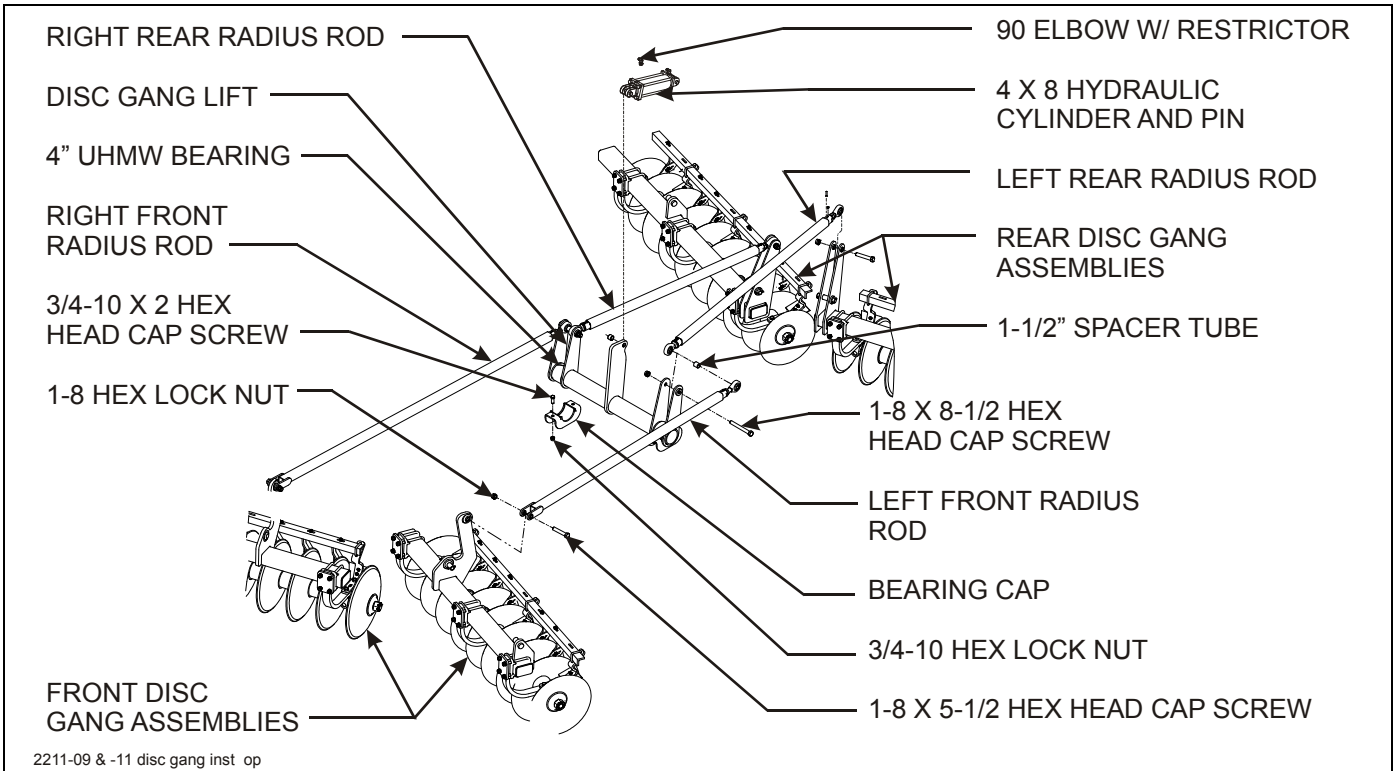
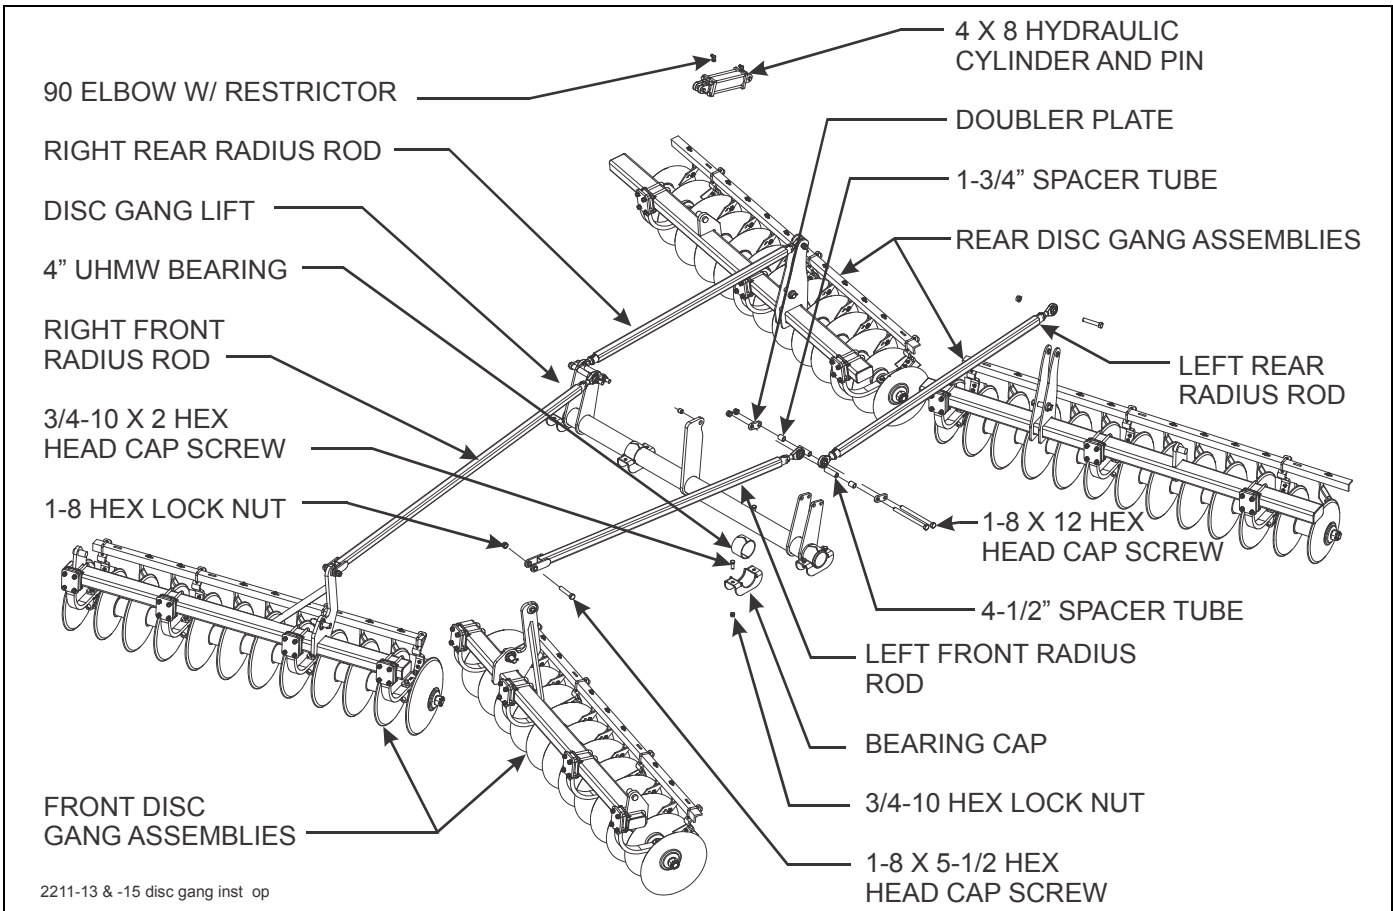

Figure 3-8: Disc Gang and Depth Adjustment Installation - 2211-09 & -11)
Figure 3-9: Disc Gang and Depth Adjustment Installation - 2211-13 & -15
1. Assemble the disc gang lift to the frame. Install the 4" UHMW bearings and bearing caps using 3/4-10 x 2 hex head cap screws and hex lock nuts (See Figures 3-8 and 3-9.)
9. Install radius rods as shown in **Figures 3-8 thru 3-10.**
10. Hook each radius rod assembly up to the disc gang lift as shown with a 1-8 x 8-1/2 (2211-09 & -11 models) or 1-8 x 12 (2211-13 & -15) hex head cap screw and hex lock nut. There is a 1-1/2" long spacer that goes between the two radius rod ball joints on 2211-09 & -11 models (**See Figure 3-8.**) 2211-13 & -15 models use a 4-1/2" spacer tube, a 1-3/4" spacer, and a doubler plate (**See Figures 3-9 and 3-10.**)